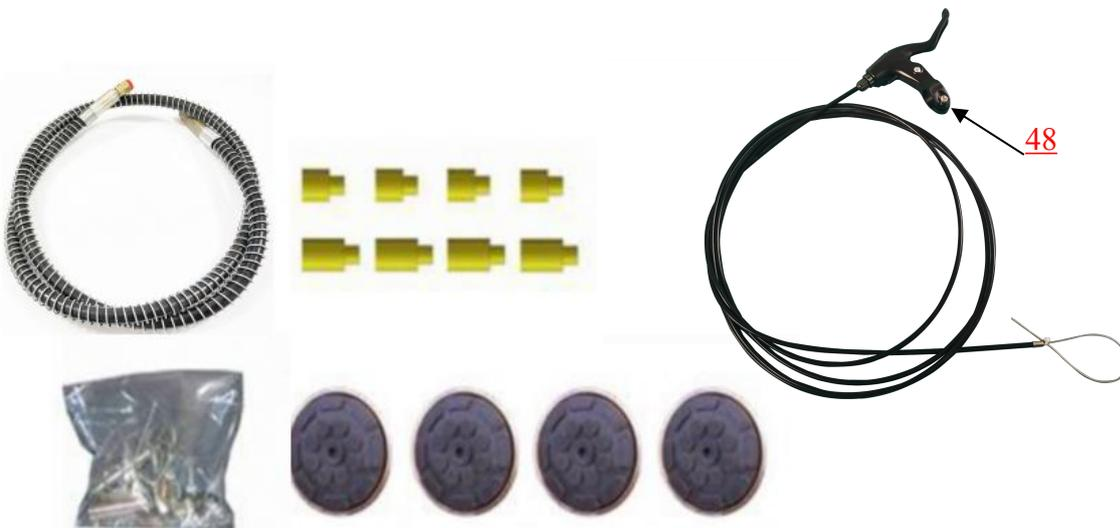

Fig. 4
2. Open the parts box, check the parts according to the part list (See Fig. 4).